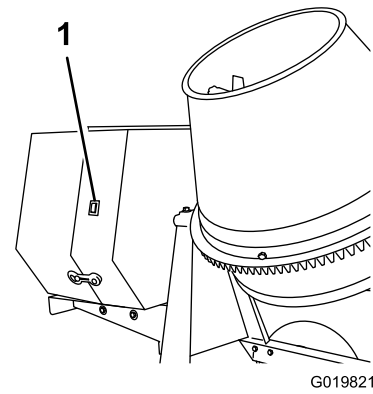

Figure 37
1. On the engine cowl, move the engine switch to the On position (Figure 37).
- Turn the cowl-mounted engine switch off (Figure 37).
**Important:** If you need to stop the engine immediately, use the engine switch located on the outside of the engine cowl (Figure 37).